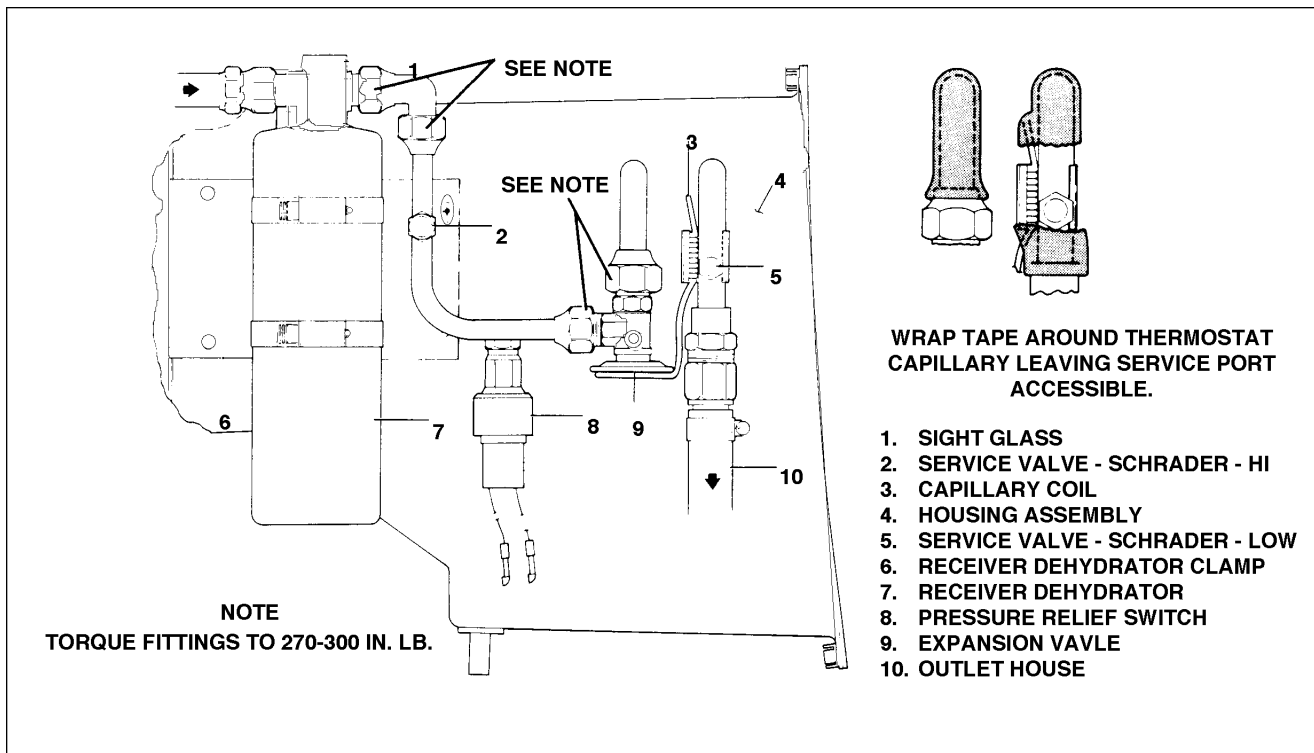

Figure 14-13. Components Installation
14.39. PRESSURE RELIEF SWITCH. (Refer to Figure 14-13.)